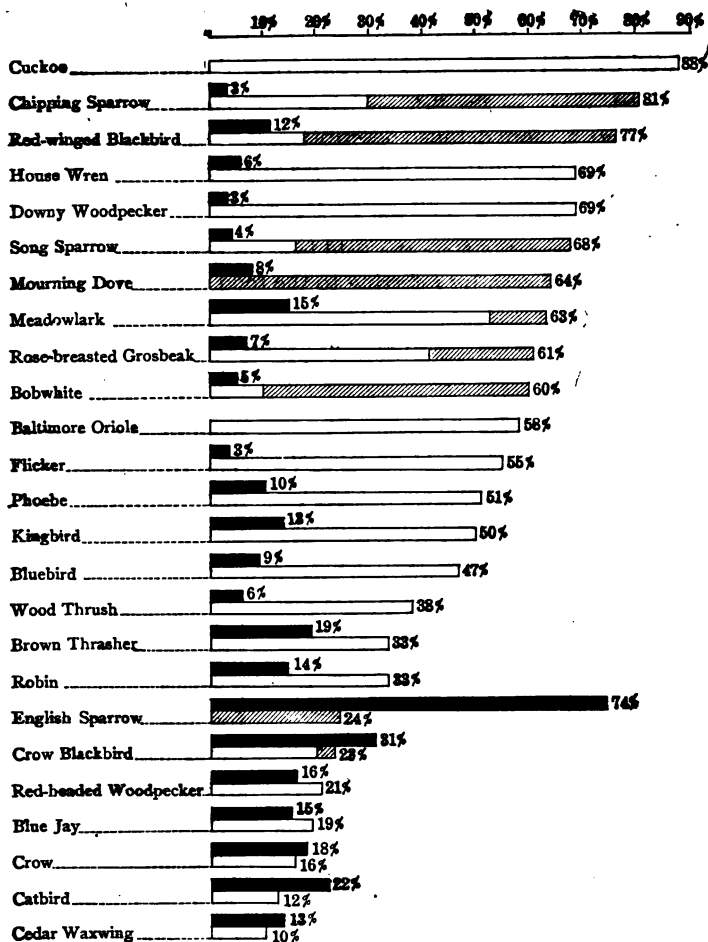

FIG. 183. — Food Chart of 25 Common Birds.
12. Arrange the birds according to the ratio between the good and harm done. Place the cuckoo and oriole at the head of the list. For the others divide the percentage of good done by the percentage of harm done. For example, for the chipping sparrow divide 81 by 3 (27). Do the same with the others and arrange them in order, the bird with the largest number first. Which five birds stand first in the list? Which five last?
13. (Optional.) If you wish you may make a chart from this table similar to the one in Figure 183. This chart is to represent the ratio between the good and harm done. Let one inch represent 5. Then for the chipping sparrow draw a line  $5\frac{1}{2}$  ( $27$ ) inches long. In a similar way draw lines for the other birds, arranging them in the order of the length of the line, the longest first. Make the lines for the cuckoo and oriole two inches and one inch, respectively, longer than that for the chipping sparrow.